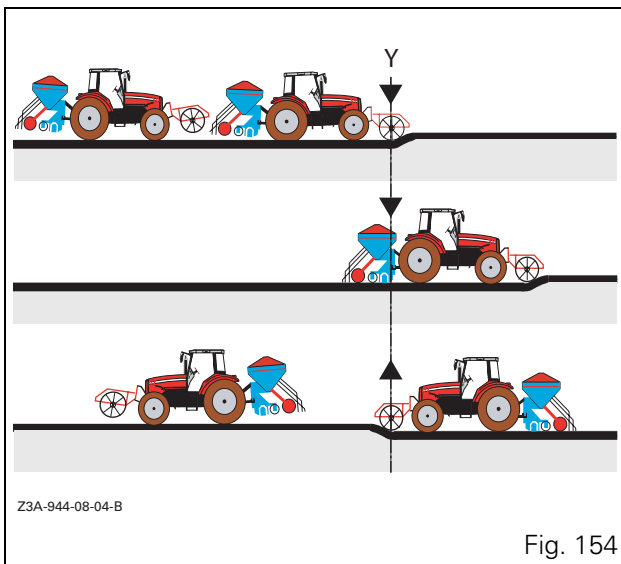

Fig. 154
- a front and rear implement, with the FRONT DUAL CONTROL (e.g.: a front roller and a combined rear seeder (Fig. 154), a front and rear plough, etc.),